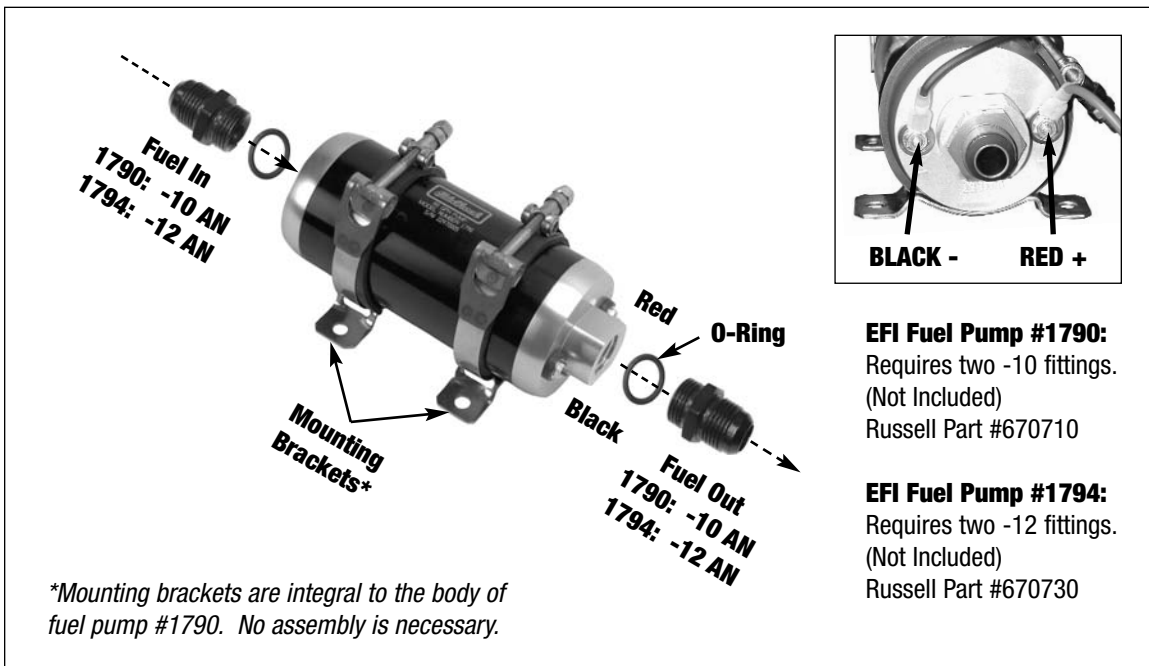

Figure 2 - Fuel Pump Fitting Assembly (1790 Shown)
6. Install the fuel pump and bracket assembly in the desired location. Make sure the pump is facing the proper direction. The outlet is on the same side as the fuel pump's electrical connections (**See Figure 2**).
8. Install the o-rings and fittings (**fuel fittings and O-rings not included**) (**See Figure 2**) and connect to your fuel lines.